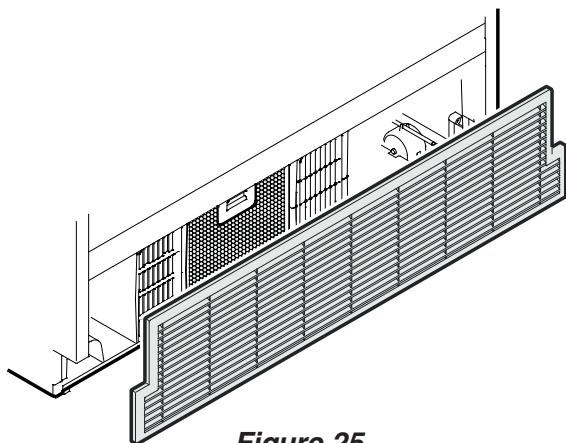

Figure 25
- Open the bottom freezer drawer and remove the ventilation grille by pulling forwards - **Figure 25**.